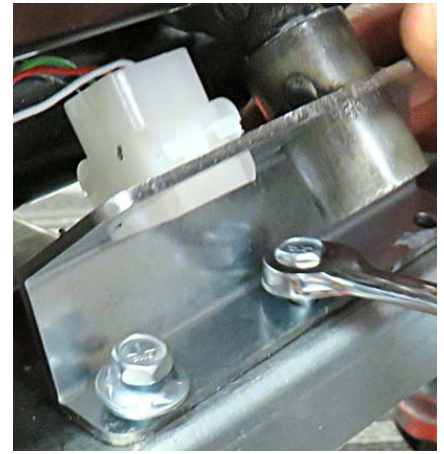

Figure 41
44. Align the dispose outlet assembly to the pre-drilled holes and attach using 1/4"-20 self tapping bolts (see Figure 41).